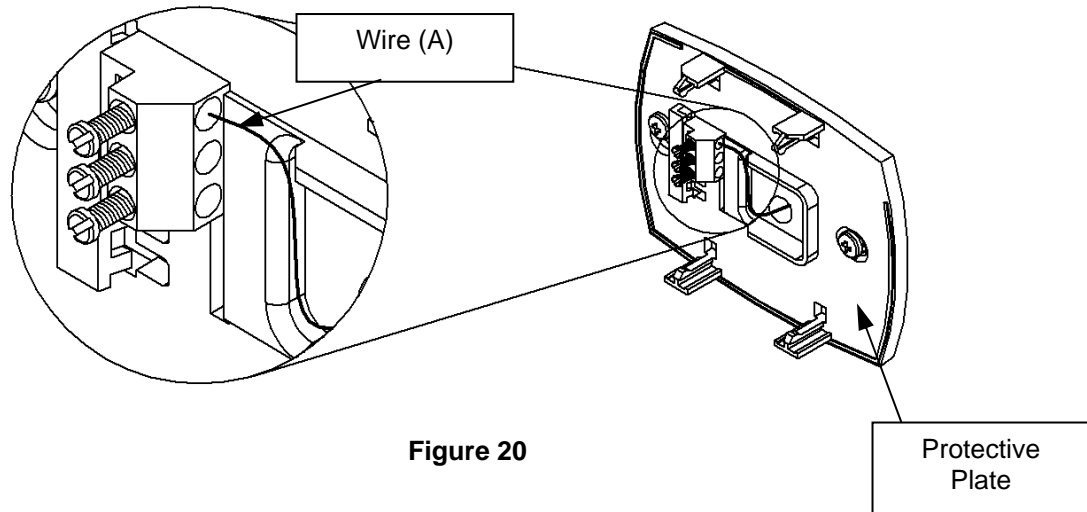

Figure 20
Step 15: Using wire (A), insert one end into the top terminal location on the Protective Plate. This is shown in Figure 20.